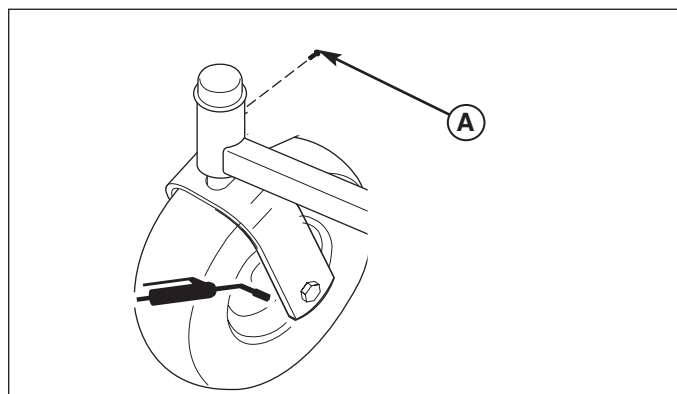

Figure 25. Front Caster & Wheel
1. Remove the 1/4-28 bolt (A, Figure 25) screwed into the front caster and install a 1/4-28 grease fitting.